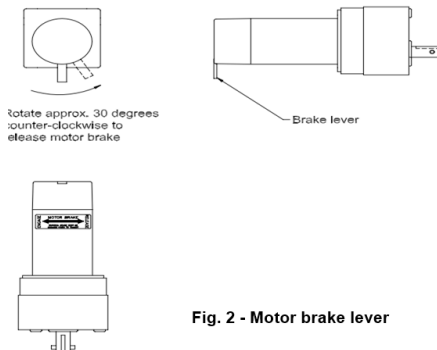

Fig. 2 - Motor brake lever
4. Rotate the brake lever, on the backside of the motor, counter-clockwise (looking from the rear of the motor) about 1/8 of a turn to the released position (Fig. 2). This will release the brake that holds the room in place.
- **MAJOR** faults must be cleared by pushing and releasing the SET STOPS/CLEAR FAULTS button located on the back of the wall touchpad (Fig 2).